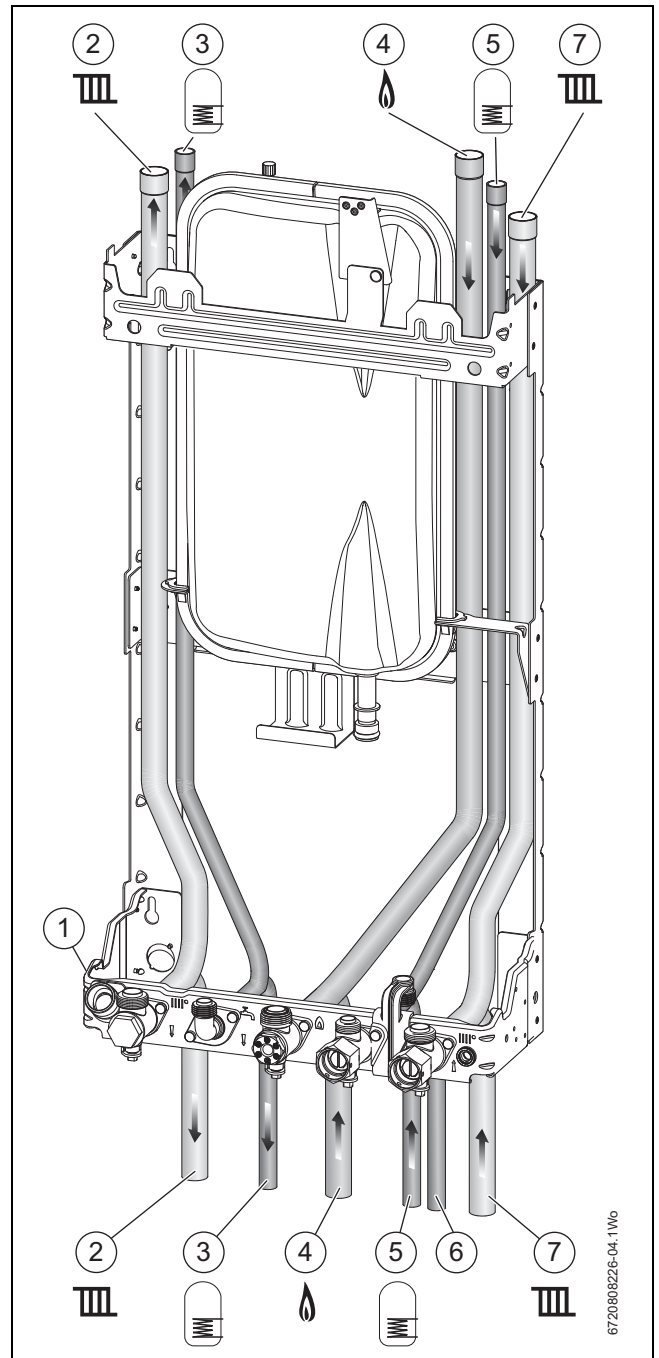

Fig. 6 Plumbing manifold with wall frame
- If the boiler pipes are to be run behind the appliance ensure that the pipes pass either side of the expansion vessel as shown in figure 6.
- ▶ Refer to figure 6